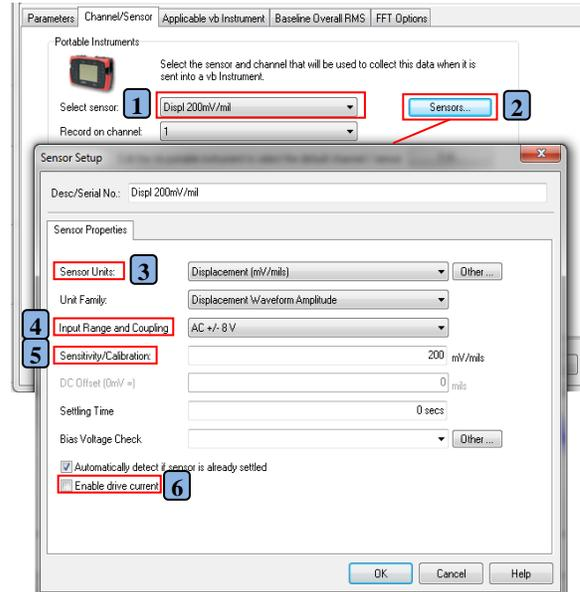

Figure 3: Displacement Transducer Configuration
7. Configure **“Channel/Sensor”**, see **Figure 3**.
AC-Coupled Sensor Configuration (Figure 3):